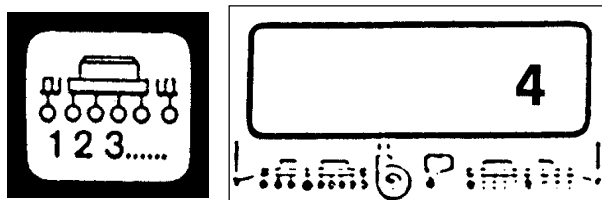

Fig.4
4.2.4 Tast "Antal aggregater" (fig.4)